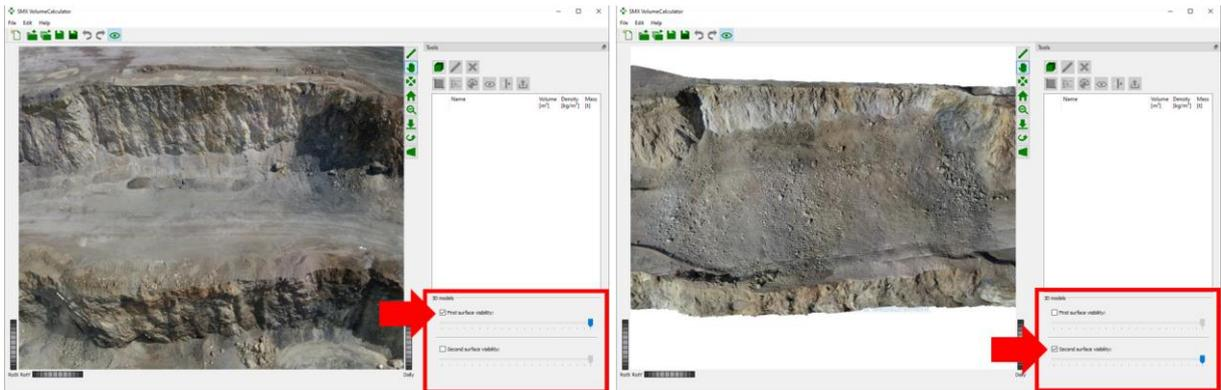

Figure 5: Loaded 3D models of a quarry: left before blast; right after blast
2. Load the 3D models one after the other by clicking the “*Load 3D Models*”  icon in toolbar 2. Check the images for plausibility with the sliders “*First Surface Visibility*” and “*Second Surface Visibility*” (see Figure 5).